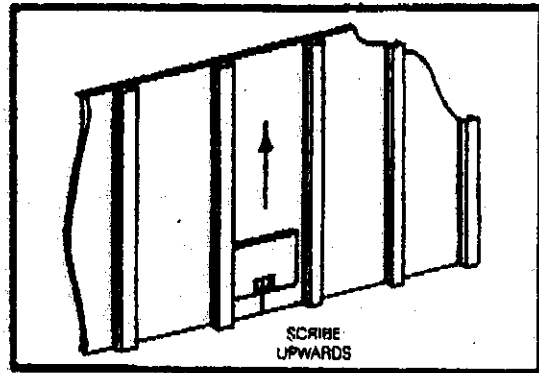

Fig. 1
- 3 Place the scribing template at base of material (between the ribs) and pull upwards, cutting a line, bottom to top. (See Figure 1)